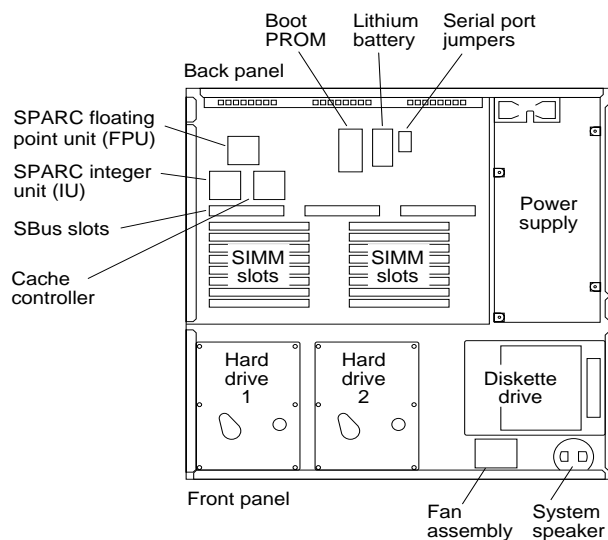

Figure 4-6 Location of SIMM Slots in System Unit
- 5. Locate the SIMM slots on the main logic board. The SIMM components must be facing toward you (see Figures 4-6 and 4-7).**
5. Locate the SIMM slots on the main logic board (see Figures 4-6 and 4-7).